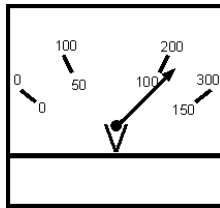
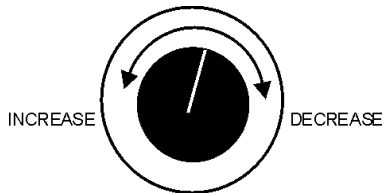

Figure 44. Voltage Meter (Volts)
Figure 45. Voltage Adjust Control Knob
12. The generator's voltage meter (Figure 44) displays the 120 VAC in **VOLTS**. If the voltage is not within the specified frequency tolerance, use the voltage adjustment control knob (Figure 45) to increase or decrease the desired voltage.